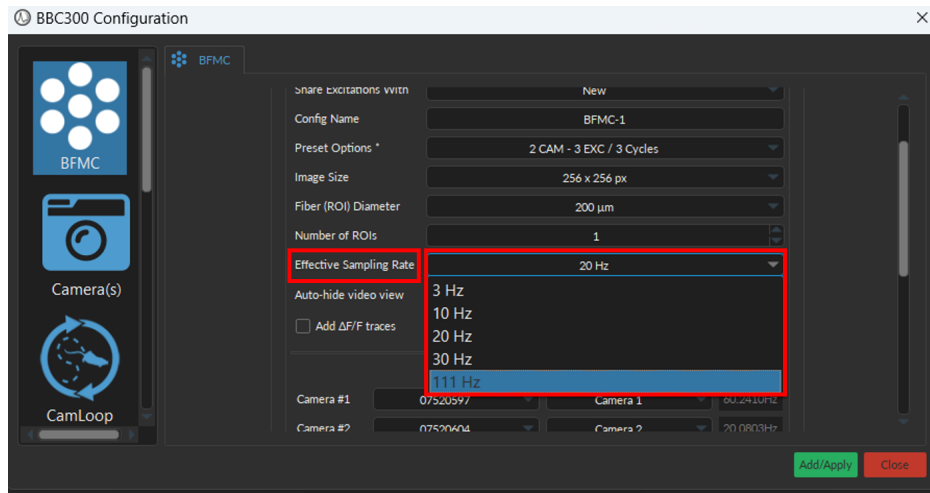

Figure 1.7: Sampling Rate
9. **Effective Sampling Rate:** According to the settings you selected so far, a number of sampling rate options will be unlocked here (Fig. 1.7).